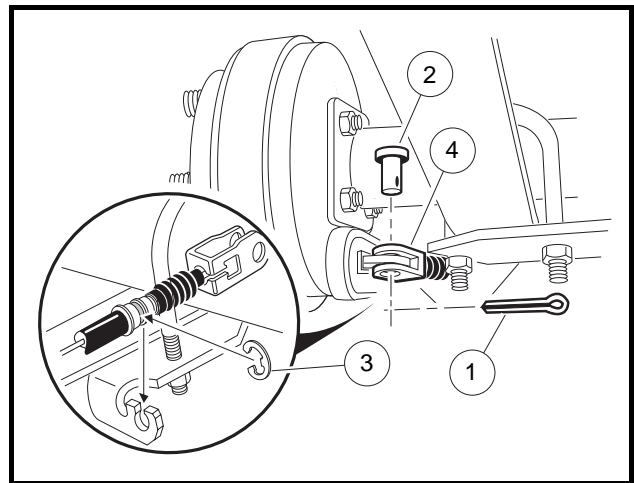

Figure 17a-7 Disconnect Brakes
5. Disconnect the shock absorbers from their lower mounts (**Figure 17a-8, Page 17a-5**).